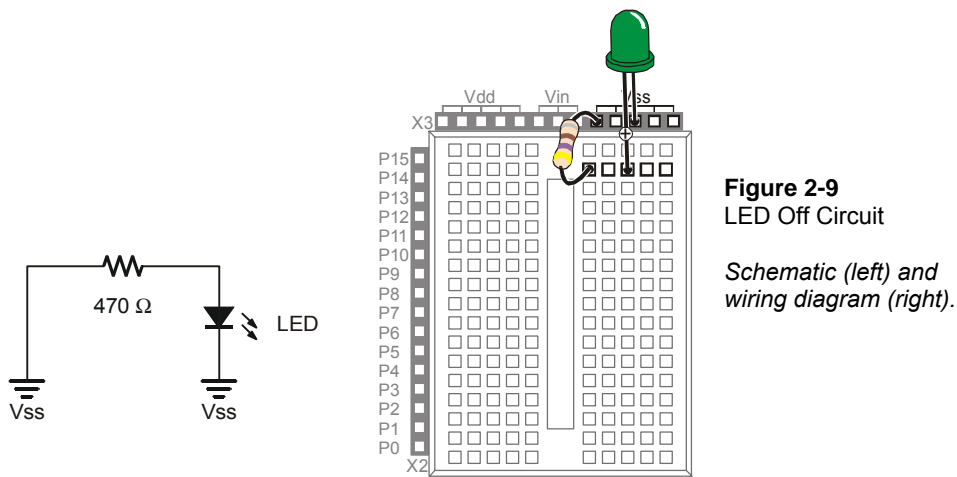

Figure 2-9
In the next activity, you will program the BASIC Stamp to turn the LED on, then off, then on again. The BASIC Stamp will do this by switching the LED circuit between two different connections, Vdd and Vss. You just finished working with the circuit where the resistor is connected to Vdd, and the LED emits light. Make the changes shown in Figure 2-9 to verify that the LED will turn off (not emit light) when the resistor's lead is disconnected from Vdd and connected to Vss.
- √ Unplug the resistor lead that's plugged into the Vdd socket, and plug it into a socket labeled Vss as shown in Figure 2-9.